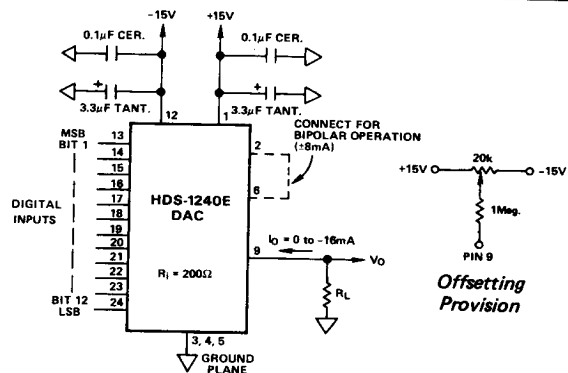
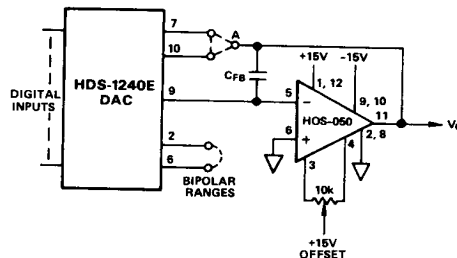

Figure 1. Current Output Operation
Figure 2. Voltage Output Operation
The HDS-1240E is a current output D/A converter which is input compatible with standard ECL (emitter coupled logic). Each digital input controls an internal switch, which through a precision binary weighted resistor network, sets the output current of the device. Starting with the most significant bit (MSB) and proceeding toward the least significant bit (LSB), each lesser bit controls one-half the current value of the preceding bit. Therefore, the MSB (Bit 1) controls 8mA, Bit 2 controls 4mA, and so on until the LSB is reached which has a weight of 3.9μA. Thus, the output of the D/A varies from 0 with all digital inputs at a logic "1" state to -16mA with all inputs at a logic "0" state. This operating condition is called unipolar. For bipolar operation, an 8mA current source is provided. When this current source is connected to the output, it will then swing from -8mA to +8mA. See Figures 1 and 2 for this hook-up.
With the DAC hooked-up as shown in Figure 1, the output will be 0 to -16mA. Since the output compliance is +0.5V to -1.1V, care must be taken not to let the output voltage exceed these limits. The input/output relationships are shown in the table below.
There are certain applications that require more than the 1V p-p that is directly obtainable with the DAC output. In these circumstances, the use of an ultra-high speed operational amplifier is required. Figure 2 shows such an application utilizing the ADI Model HOS-050 op amp. The HDS-1240E DAC has built-in feedback resistors which are actively laser trimmed, and which eliminate the need for extra components. A variety of connections of these resistors allows various output voltages as shown in the table below. Care should be taken to keep all leads as short as possible, as the bandwidths encountered in these type circuits are quite high, and parasitics can be a very real problem. The power supply bypassing arrangement shown in Figure 1 should be used.
2. Low frequency bypassing should be provided with $1\mu\text{F}$ (or larger) tantalum capacitors mounted between the $\pm 15\text{V}$ supply lines and ground near the D/A (see Figure 1).
3. High frequency bypassing should be provided by ceramic capacitors of $0.1\mu\text{F}$ or larger mounted within 0.25 inches of Pins 1 and 12 to ground (see Figure 1).